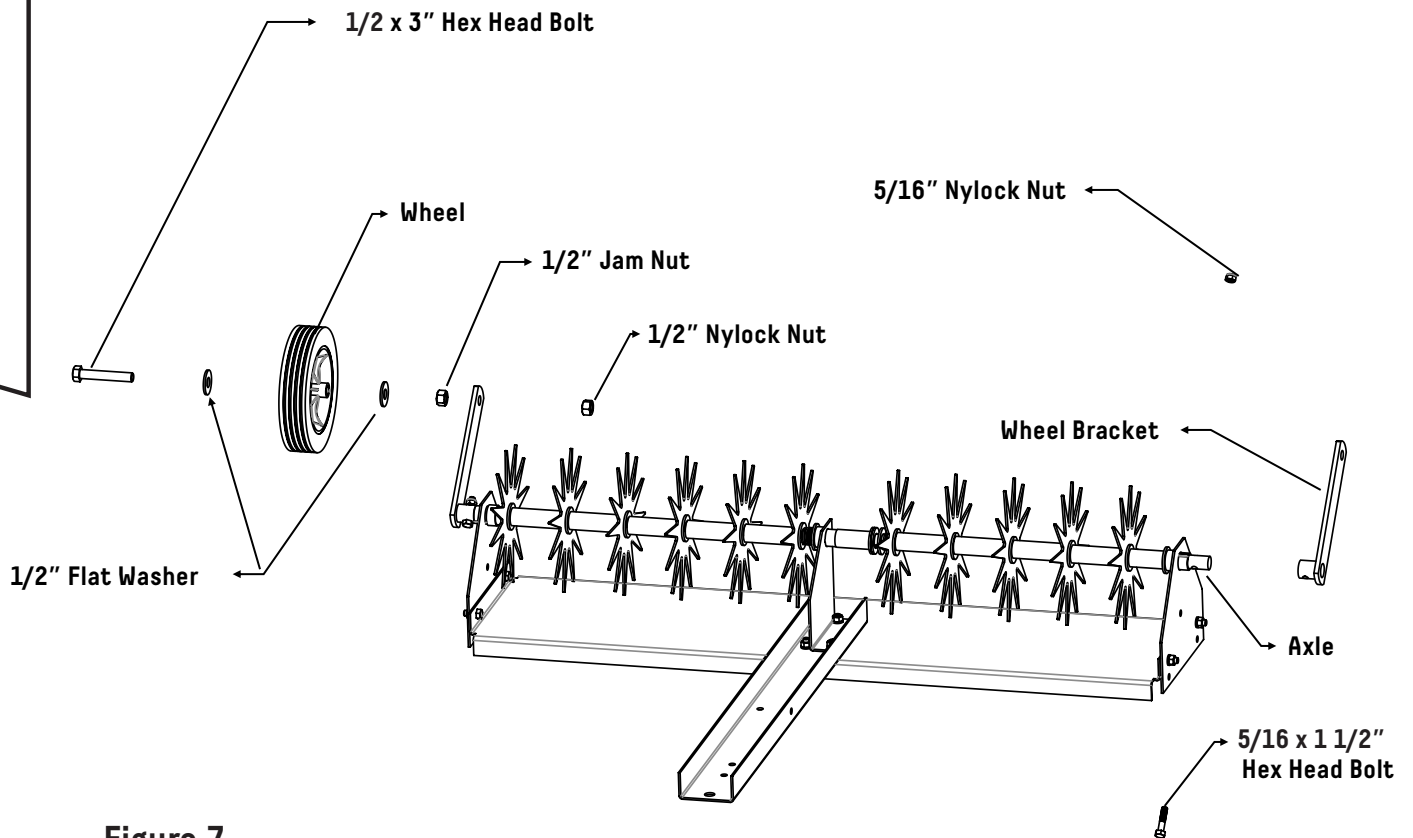

Figure 7
7. Align the hole of the Wheel Bracket with the hole in the Axle. Insert a 5/16 x 1 1/2" Hex Head Bolt into the hole in the Wheel Bracket and Axle. Secure with a 5/16" Nylock Nut. Repeat process on the other side. Place a 1/2" Flat Washer onto a 1/2 x 3" Hex Head Bolt, followed by a Wheel and then another 1/2" Flat Washer and secure with a 1/2" Jam Nut (do not over tighten or the Wheel will not turn). Insert this assembly into the hole in the Wheel Bracket, and secure with a 1/2" Nylock Nut. Repeat the process on the other side. See Figure 7.